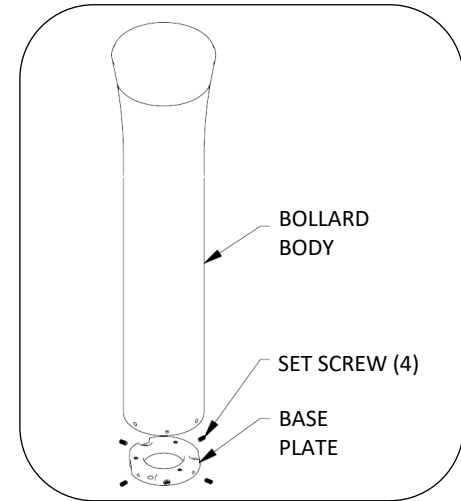

FIG. 1 – REMOVE BASE PLATE
2. Remove base plate from unit body by removing the four set screws at the bottom of the unit, see Fig. 1.